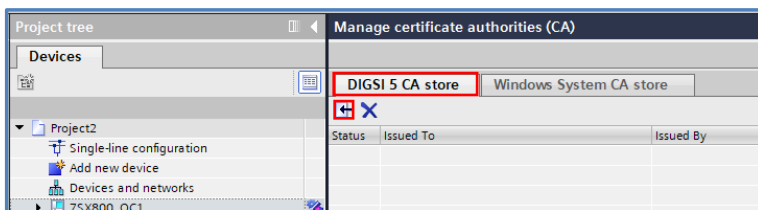

Figure 4.6: Setup DIGSI 5 CA-Store step 2
The certificate of the Certificate Authority (CA) what issued and signed all other needed certificates can be imported in the newly opened main working area (Figure 4.6). This CA present its identification with the "public key", therefore no transport key is needed for the import.